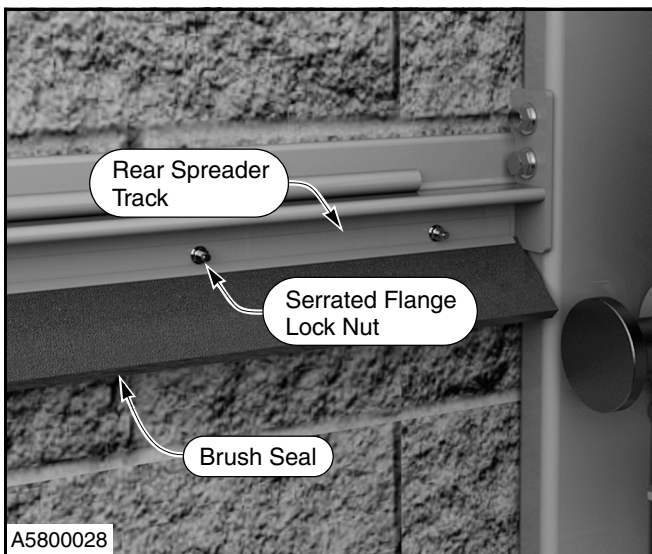

Figure 34
5. Remove the serrated flange lock nuts and rear spreader track. (See Figure 34.)